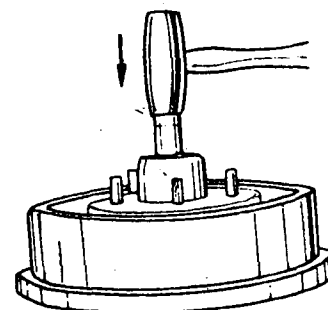

Fig. 2
- a) Remove the seal and inner bearing of the hub (fig. 2).